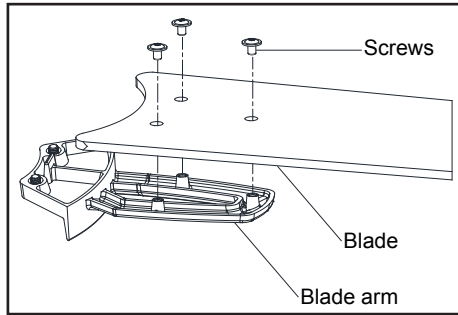

Figure 10
1. Attach blade to blade bracket using the screws as shown in figure 10. Start a screw into the bracket. Repeat for the two remaining screws.